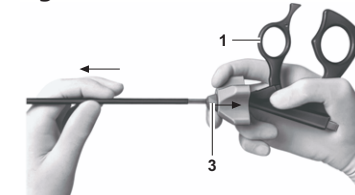

Fig. 4
- ▶ Pull back rotating sleeve 3 in the direction of the arrow (towards the handle A) as far as it will go, see Fig. 4.
- ▶ Hold the sleeve to the stop while simultaneously pulling out the sheath B with moveable ring 1 left loose, see Fig. 4.